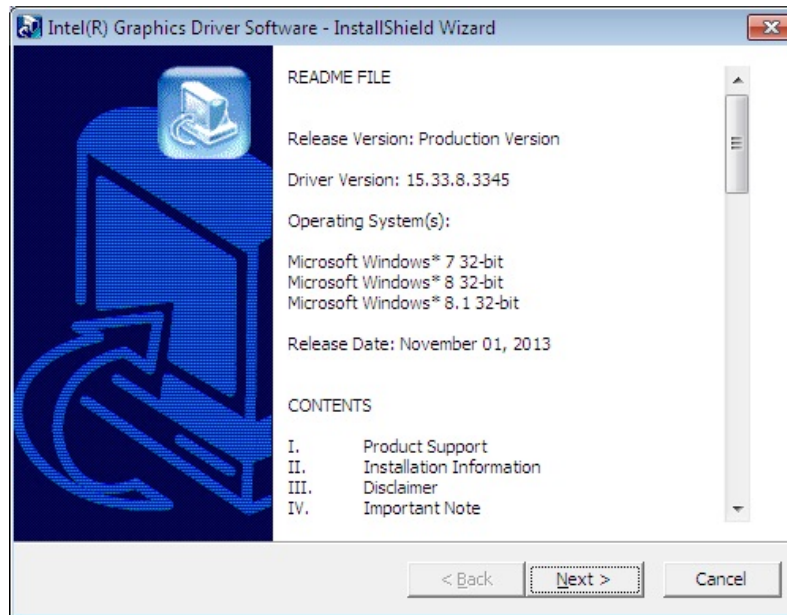

Figure 6-7: VGA Driver README FILE
Step 4: The **README FILE** screen in **Figure 6-7** appears. Click **Next** to continue.